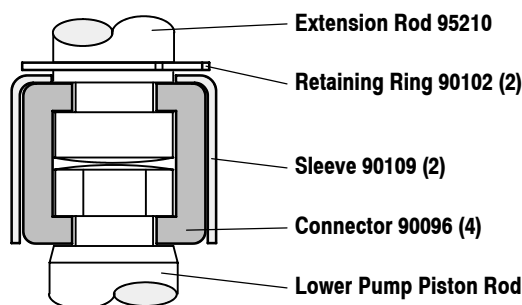

FIGURE 2
- Using e-ring pliers, slide the retaining ring up far enough to allow the sleeve to move upward and release the two connectors (figure 2). Lay the air motor aside.